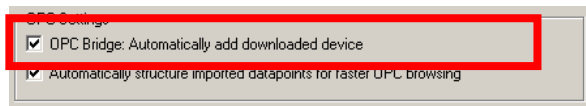

Figure 182: Enable bridge export in the project settings.
- In the Configurator menu go to **Settings** → **Project settings** This opens the project settings dialog on the tab **General** as shown in Figure 182.